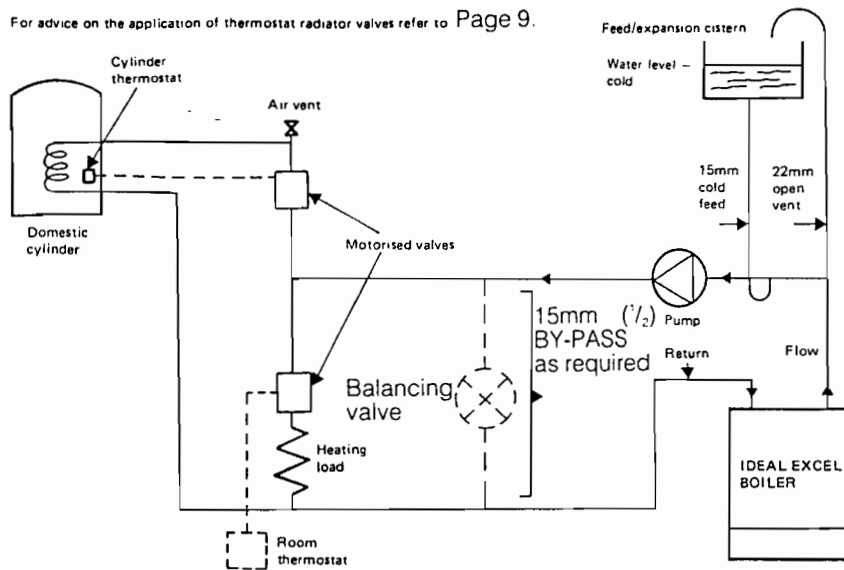

Fig. 6
- (a) Systems fitted with 2 port SPRING CLOSURE valves (suitable valves, are those featured in Fig 16, which also shows the electrical wiring details which **MUST** be adhered to. See also the schematic pipework layout-Fig. 6 for further information.